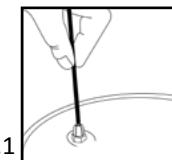
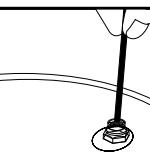

Fig.1
Fig.2
1 STEAM OUTLET (12): Remove the rotary valve (11) from the lid and check from the inside of the lid that the steam outlet hole is totally clean and unobstructed. If it is not, clean it using a thin rod. (Fig.1)
2 SAFETY VALVE (13): Check it is working correctly by pressing the valve pin with a rod from inside the lid. If it can be pushed in, it is working correctly. (Fig.2)
To wash the LID, clean the steam outlet hole using a thin rod (Fig.1), and the safety valve by pressing the pin with a rod (Fig.2). Then rinse it vigorously under the tap.
Check there is enough water in the pressure cooker. Check whether the steam outlet is dirty. If it is, clean it with a rod (Fig.1).